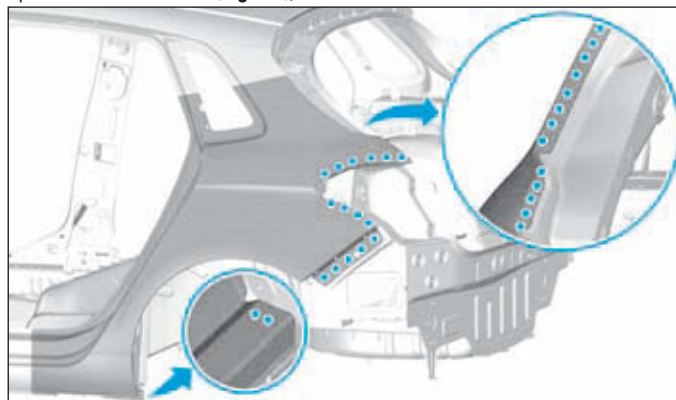

FIG.105
- points bouchons MAG (Fig.105),